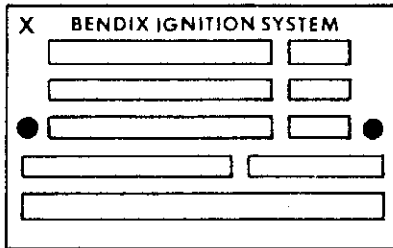

Figure 1. Location of "x" on Identification Plate
All D-2000/2200 series magnetos below serial number 35480 (red label magnetos) and below serial number 8122106 (blue label magnetos) unless identified with an "x" in the upper left corner of the identification plate before the word "Bendix" (see figure 1). The "x" on the identification plate indicates previous compliance.
6. If new serviceable gears, identified with the "z", the "x" and "o", or the "L" are installed in the magneto, identify the magneto by stamping the letter "x" in the upper left corner of the identification plate, before the word "Bendix" (see figure 1).